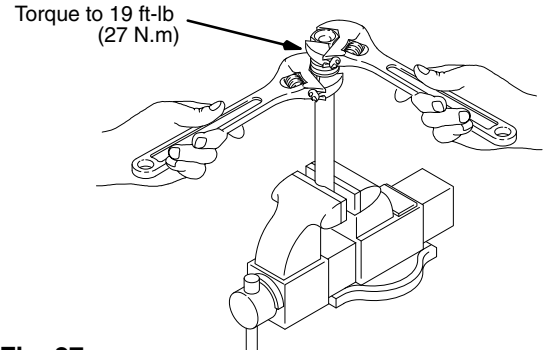

Fig. 27 02570
5. Place the flats of the rod in a vise. Carefully tighten the piston valve nut (211) against the piston rod to 19 ft-lb (27 N.m). Use two wrenches to maintain the alignment. See Fig. 27.